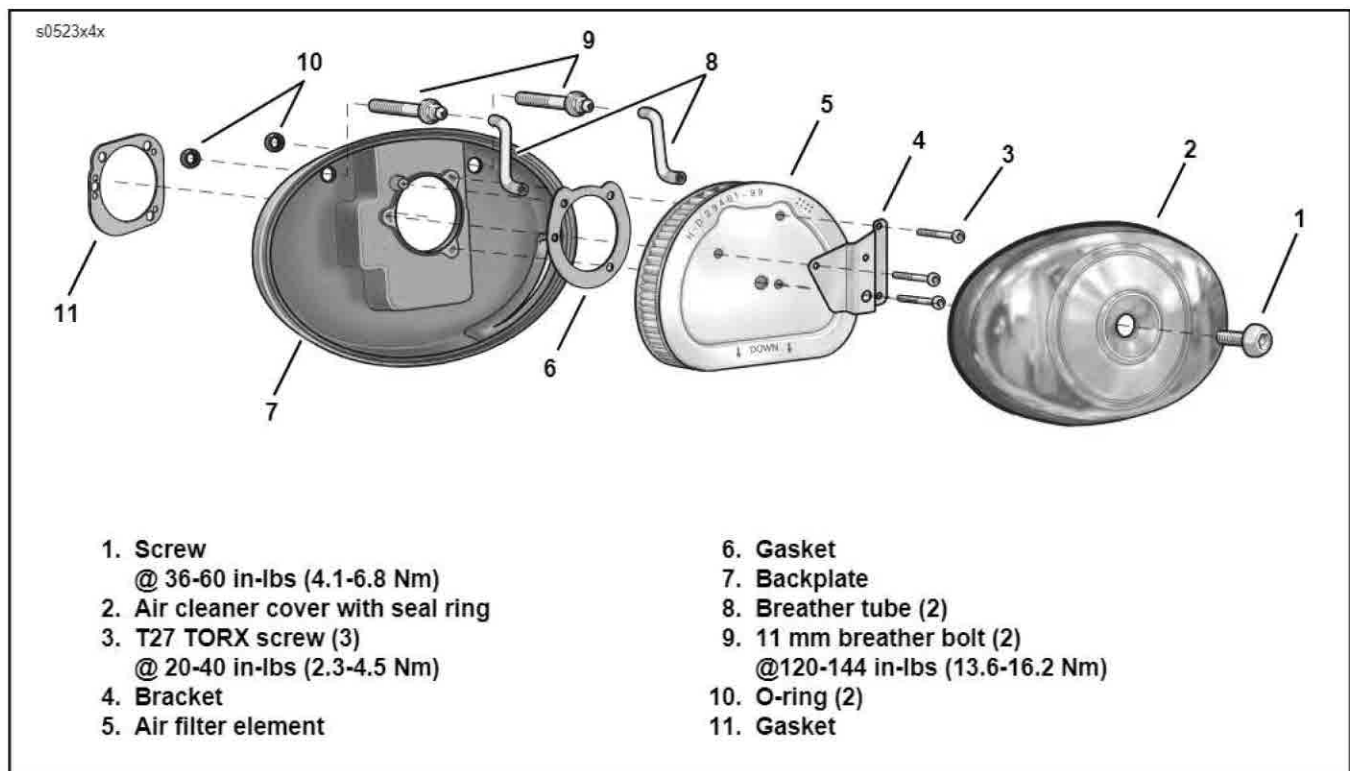

Figure 1. Air Cleaner Assembly
2. See Figure 1. Remove the screw (1) and air cleaner cover (2).
3. Remove three TORX screws (3) and bracket (4) from the filter element (5).
4. Gently pull both rubber breather tubes (8) from the back of the element. Remove the filter element (5) and gasket (6).
5. Gently pull the breather tubes (8) from the breather bolts (9) on the backplate.
6. Alternately back out both breather bolts (9) (metric), a few turns at a time, while pulling backplate (7) away from the carburetor.
7. Continue with the previous step until breather bolts are clear. Remove backplate (7), O-rings (10) and gasket (11). Inspect the gasket for tears or damage, and replace if necessary.